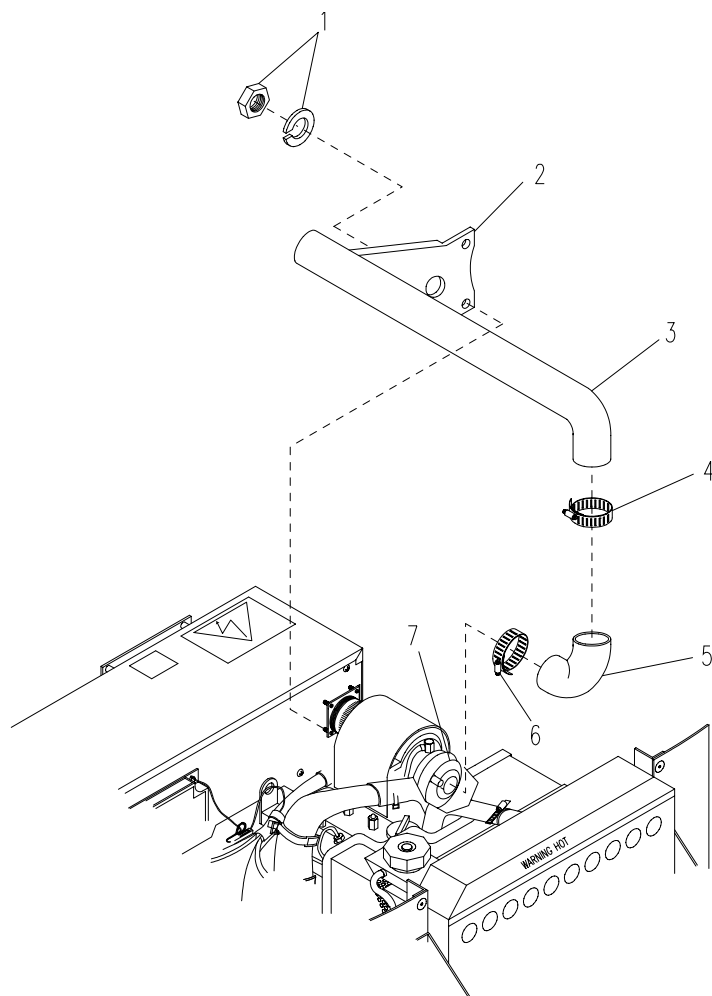

Figure 4-35. Air Intake Pipe
Inspect air intake elbow (5, Figure 4-35) and replace if showing signs of deterioration.
- a. Remove two nuts and lock washers (1, Figure 4-35) securing support bracket (2) to turbo charger (7).
- b. Loosen clamp (4) and remove air intake pipe (3) from air intake elbow (5).
- c. Loosen clamp (6) and remove air intake elbow (5) from turbo charger (7).
- d. Secure air intake elbow (5) to turbocharger (7) with clamp (6).
- e. Secure air intake pipe (3) to air intake elbow (5) with clamp (4).
- f. Secure support bracket (2) to turbocharger (7) with two lock washers and nuts and bolts (1).